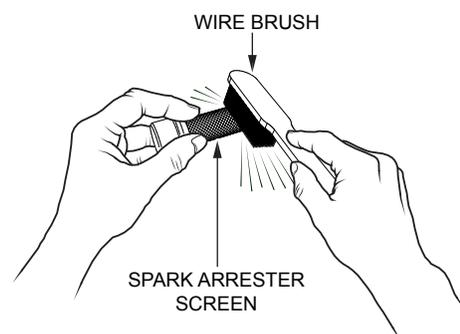

Figure 31. Cleaning the Spark Arrester
3. Carefully remove carbon deposits from the spark arrester screen (Figure 31) with a wire brush.